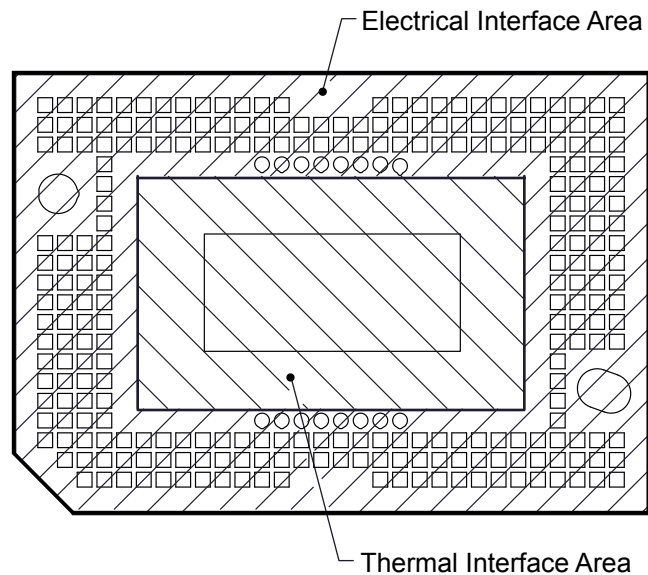

Figure 7. System Mounting Interface Loads
(1) Uniformly distributed within area shown in Figure 7.